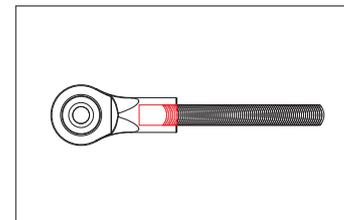

Abb. 30: Screwing in the threaded rod
5. Screw the threaded rod into both heads of the coupling rod about ten turns deep. This gives you an adjustment range of about +/- 10 mm in length for any correction that may be necessary later. (Fig. 30)